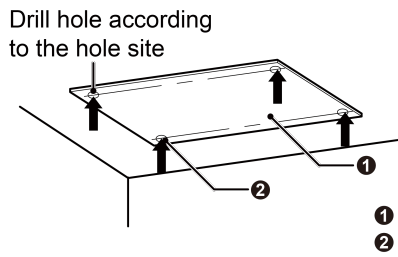
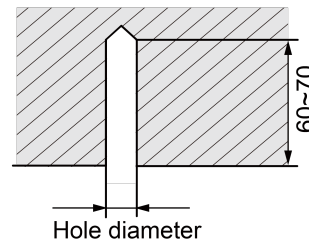

Fig.4.1.2
Fig.4.1.3
- 1) Stick the paper pattern on the installation position; drill 4 holes according to the whole site on the cardboard as shown in Fig.4.1.2; diameter of drilling hole is according to the diameter of expansion bolt and the depth is 60-70mm, as shown in Fig.4.1.3.